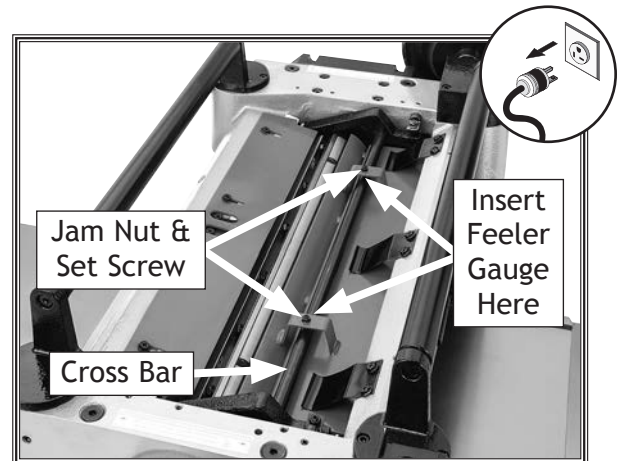

Figure 52. Example of feeler gauge locations for adjusting chip breaker height when using wood blocks.
13. Loosen jam nuts and set screws on each side of chip breaker (see **Figure 52**).
14. Using a feeler gauge, adjust set screw so it is 0.040" from cross bar (see **Figure 52**), then tighten jam nut. Repeat on other side of chip breaker.